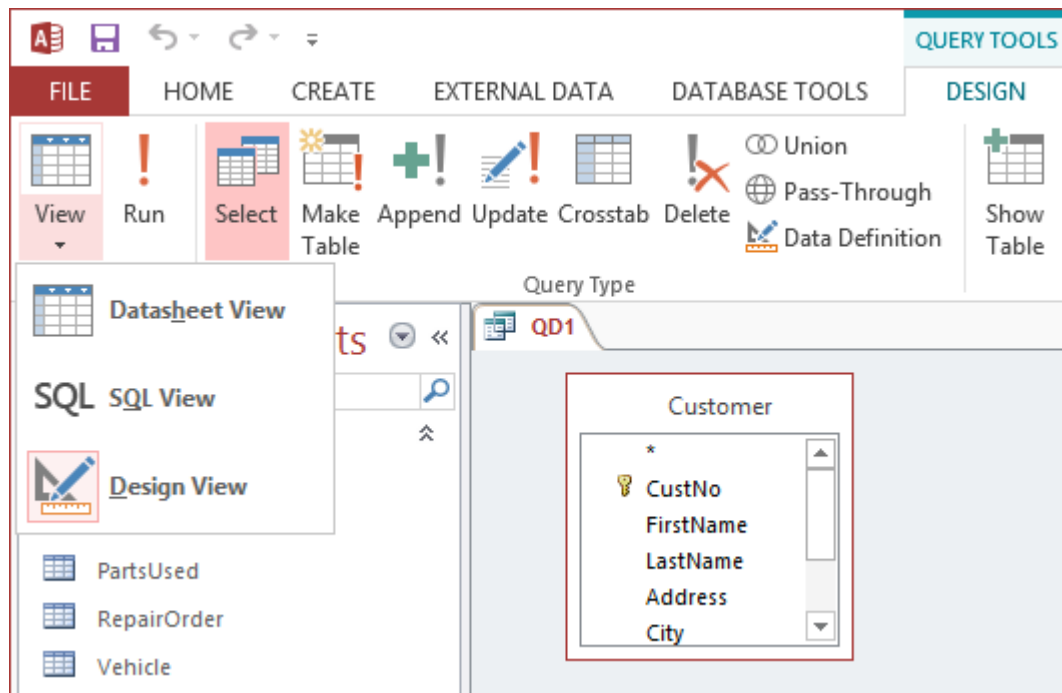
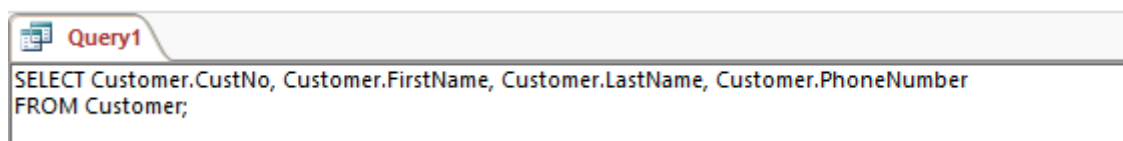

Figure 6: View Menu Showing the SQL View Command
Figure 7: SQL View for “QD1”
2. Accessing the SQL Window: With the Query Design view open, click **View** → **SQL View** (see Figure 6) in the **Design** tab of the Ribbon. The SQL view appears (Figure 7) in the view pane.
3. **Use the query tools:** With Query Design view open, you will see Query Tools in the ribbon. Choose **Query Tools | Design → View** in the Results group (Figure 6) and the three view choices appear.